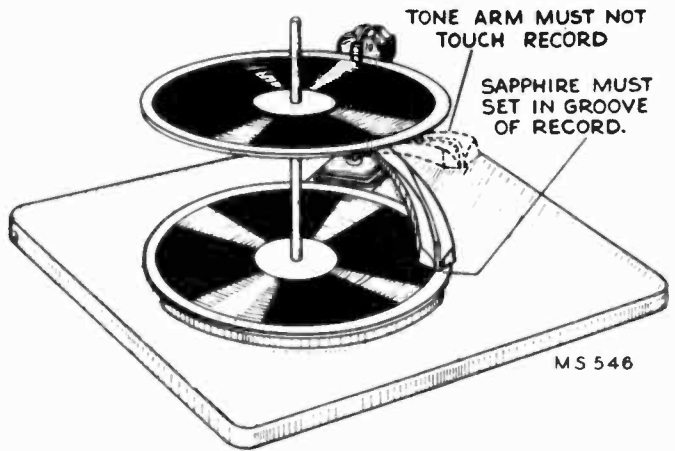
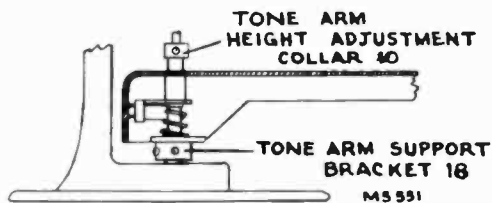

FIG. 5
FIG. 9
The tone arm height should be so adjusted as to permit the sapphire to engage and ride in the grooves of one record placed on the turntable, but at the same time prevent the tone arm from touching the records on the supports while the mechanism is going through cycle, fig. 5.
2. With the pickup near the edge of the record, loosen the set screw, holding collar 10, fig. 9, and moving it up or down on shaft 47, so as to have the conditions indicated in sketch, fig. 5.